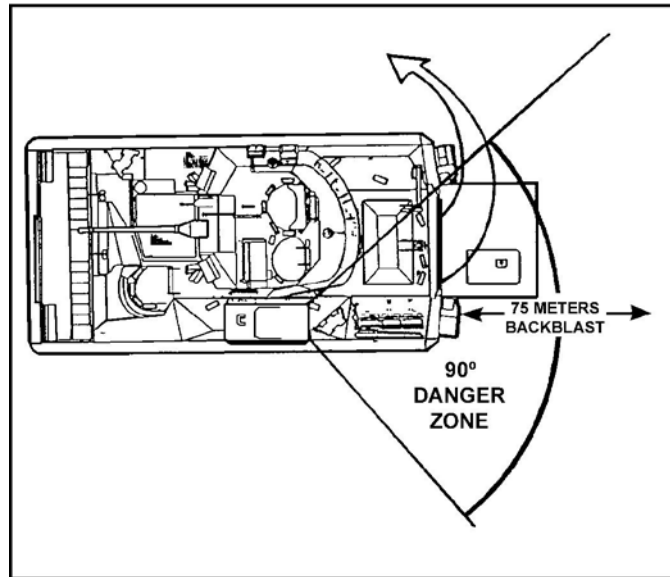

Figure 3. Troop exit.
- (1) If the second missile fires, continue with the mission.
- (2) If the second missile fails to fire after resqueezing the trigger, go to step 5.
7. As soon as the situation permits, unload the misfired TOW missile and reload (Figure 3). (In training, exit the turret through the turret shield door; stay in the squad area for 30 minutes.) If the turret has to be positioned to 6400 mils, make sure that no friendly troops are in the line of fire. Refer to appropriate task when removing the misfired missile from the launcher